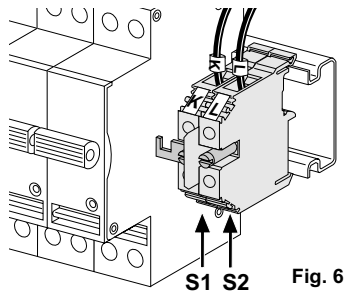

Fig. 6
■ Existing CT (Fig. 6):
- transmit the data from the CT as follows: S1 to terminal **K** and S2 to terminal **L** on the terminal block (Fig. 6, 7 and 8).